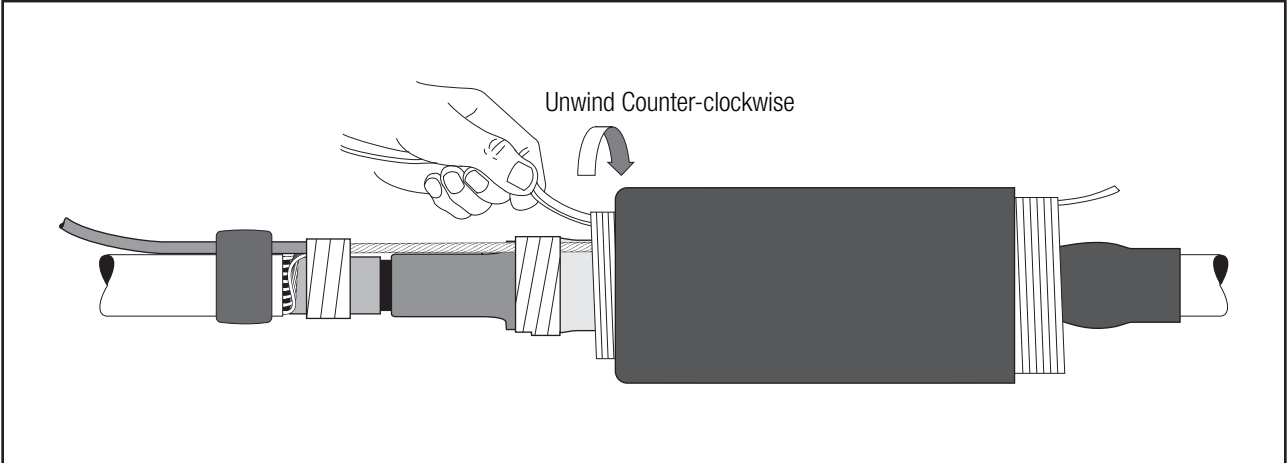

Figure 25
- 7.2 Begin to install the cold shrink tube by completely covering the rubber mastic, and slowly pulling and unwinding the inner core counterclockwise toward the splice body. The outer core should remain relatively stationary while unwinding the inner core. If the outer core begins to move towards the first mastic seal, gently pull the outer core and jacketing tube towards the second mastic seal and continue unwinding the inner core (*Figure 25*).